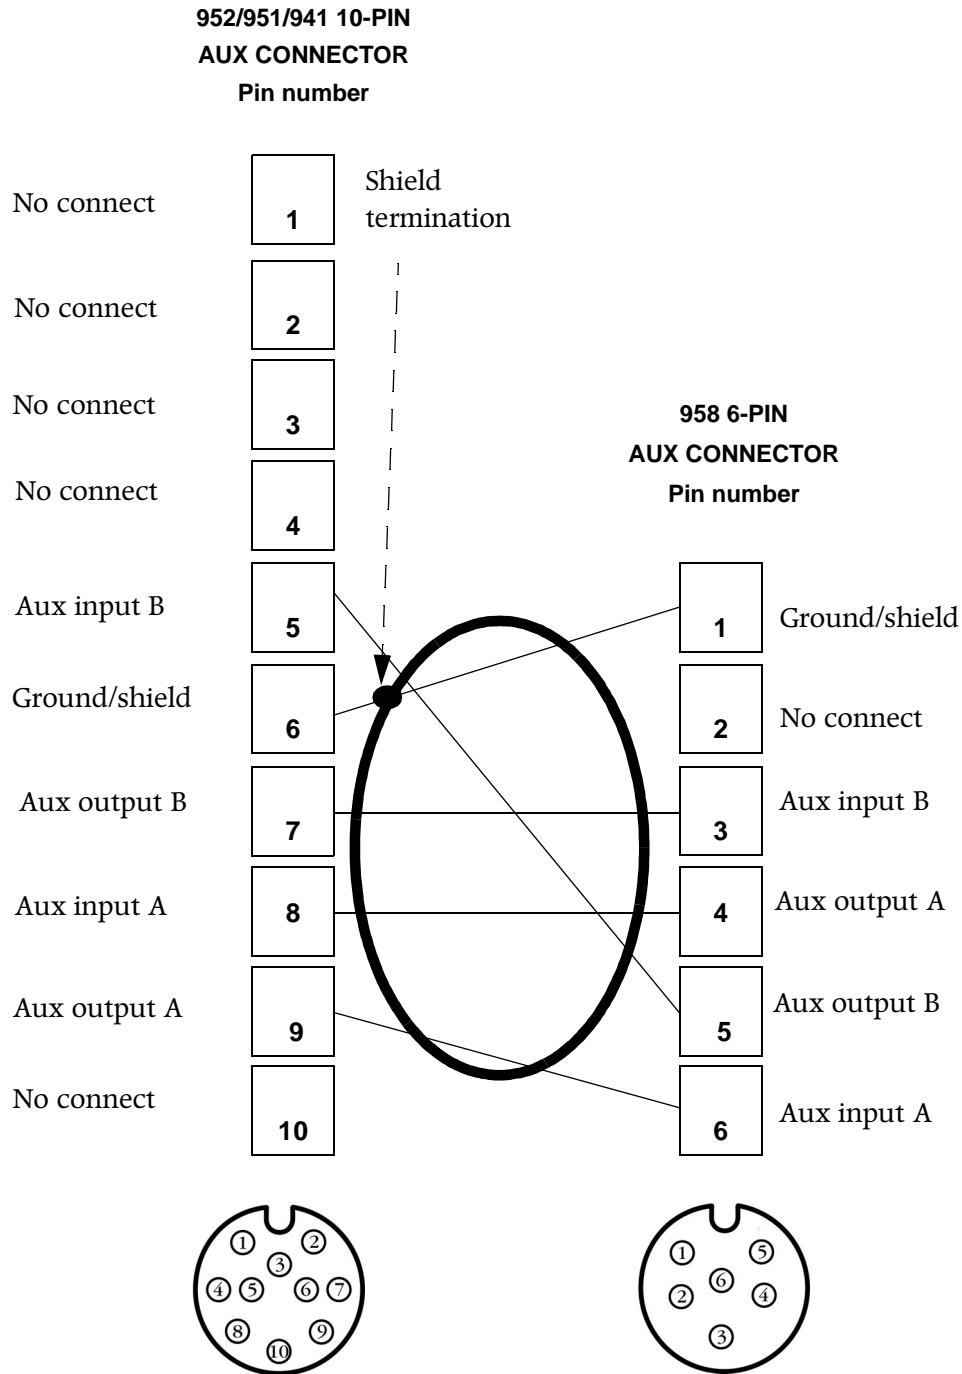

Figure 18: 952/951/941 and 958 aux ports' interface diagram (wiring side view, solder cup)
- For wiring a 958 to a 952/951/941, see Figure 18 on page 33 and Table 10 on page 34.